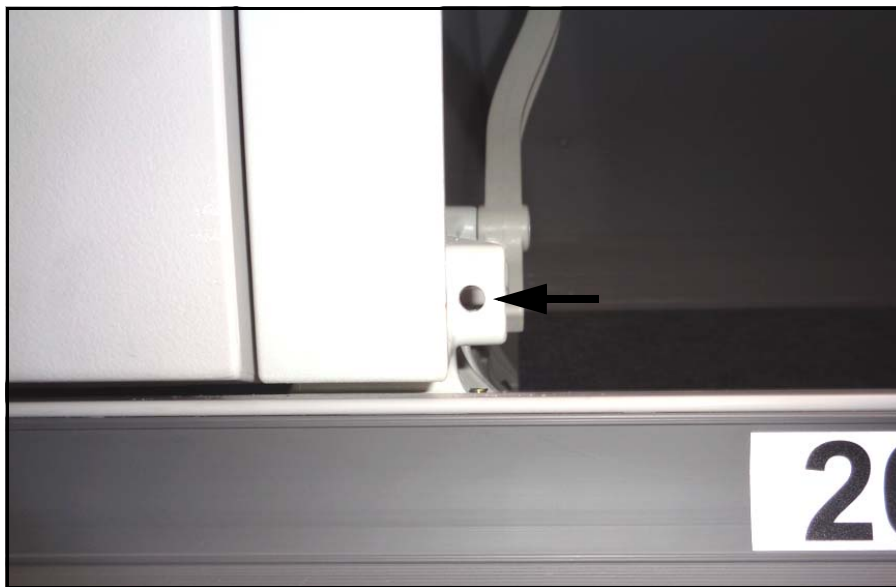

**Figure 3.**
***Ensure that the drilled hole is directly in the center of the parcel rack strut as shown in Figure 3.***
6. Using a 0.25 inch drill bit and a drill, drill a hole where the two drawn lines intersect ( refer to Figure 3 ). Erase any visible pencil marks. Clean to remove any burrs from drilling.